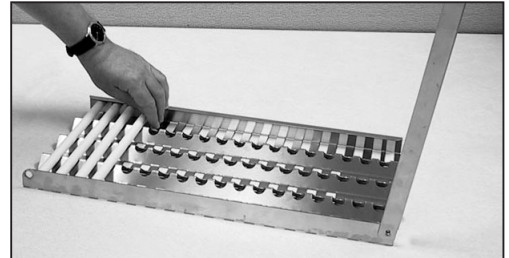

FIG.14
3. Place 18 ceramic rods on the radiant (Fig. 14).